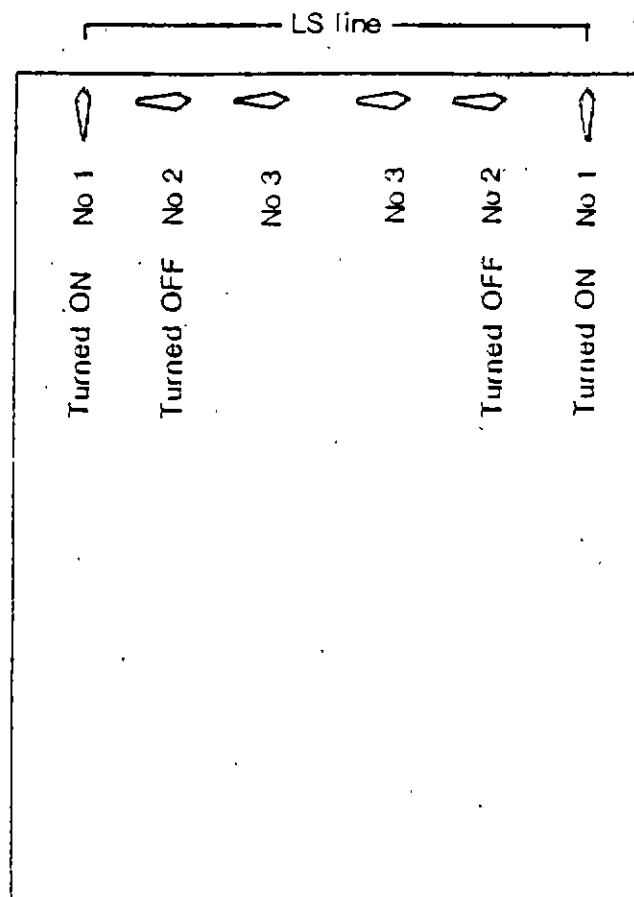

fig 2.5
1. Locate manifold board in Vertex room and refer to fig. 2.5
2. Turn OFF SUPPLY valve followed by RETURN valve (No 2 compressor on LS line) then turn ON RETURN valve followed by the SUPPLY valve (No 1 compressor on LS line). This results in the southern No 1 (CX) compressor running both LS and CX cryodynes.